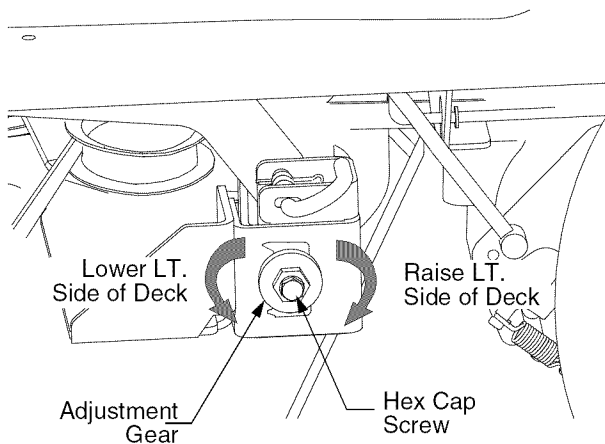

Figure 31
- Loosen, but do not remove, the hex cap screw on the left deck hanger bracket. Refer to Figure 31.
- Level the deck by using a wrench to turn the adjustment gear (found immediately behind the hex cap screw just loosened) clockwise to raise the left side of the deck, or counterclockwise to lower the left side of the deck. See Figure 31.